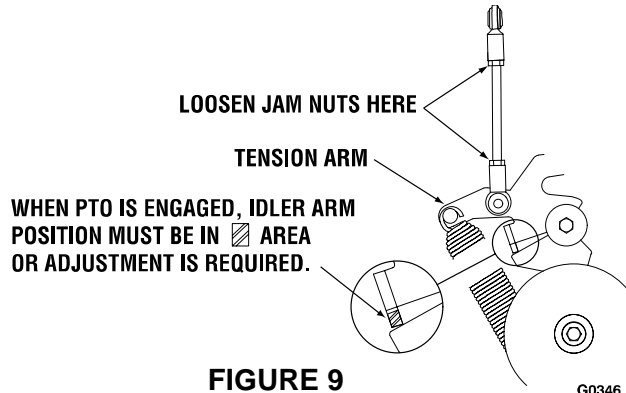

FIGURE 9
- j) Loosen the jam nuts and adjust linkage as shown in Figure 9 until the pointer is aligned with the tension arm as shown.